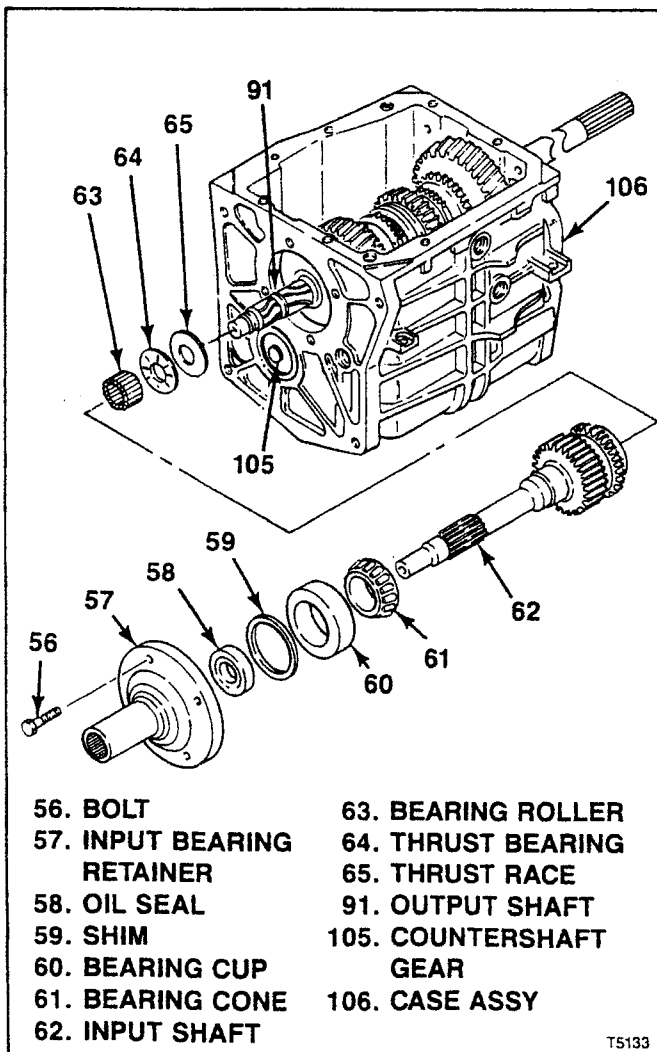

Figure 4-7. T5 NWC Input Shaft
4-13. REMOVAL OF T5 NWC INPUT SHAFT. Make alignment mark on input bearing retainer (57) and transmission case (106) and proceed as follows (see figure 4-7):
- a. Remove bolts (56).
- b. If necessary, use suitable knife to break sealant bond between input bearing retainer (57) and transmission case (106). Pull bearing retainer straight out.
- c. Use suitable puller to remove oil seal (58) from input bearing retainer (57).
- d. Remove shim(s) (59) and bearing cup (60).